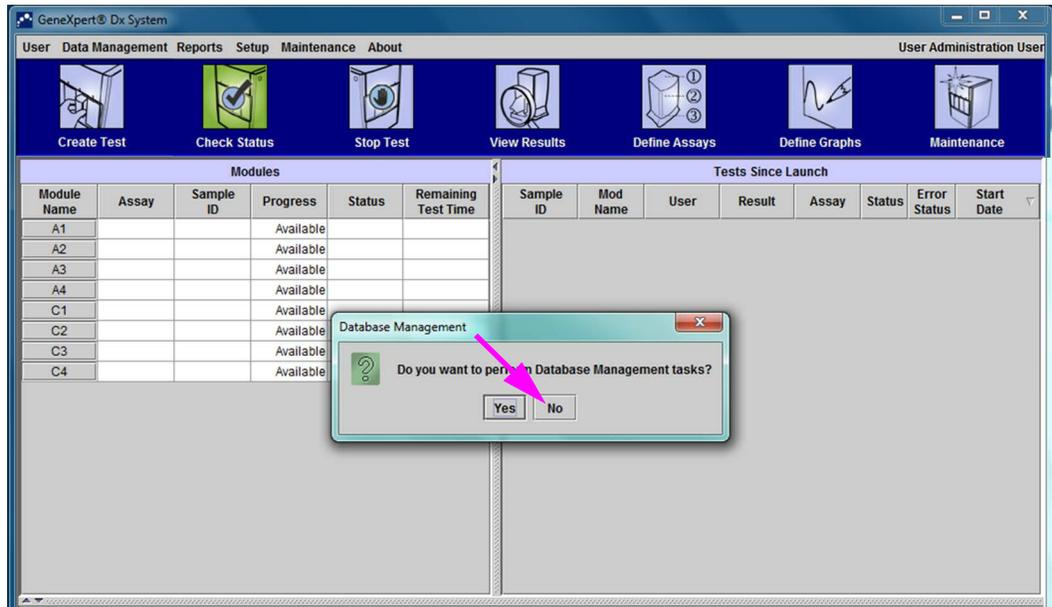

Figure 2-64. GeneXpert Dx System Window with Database Management Dialog Box Overlay
1. In the Assign Instrument Dialog box, click **OK** to acknowledge the assignment of instrument letters. When the Assign Instrument Dialog box closes, the Database Management dialog box appears (see Figure 2-64).